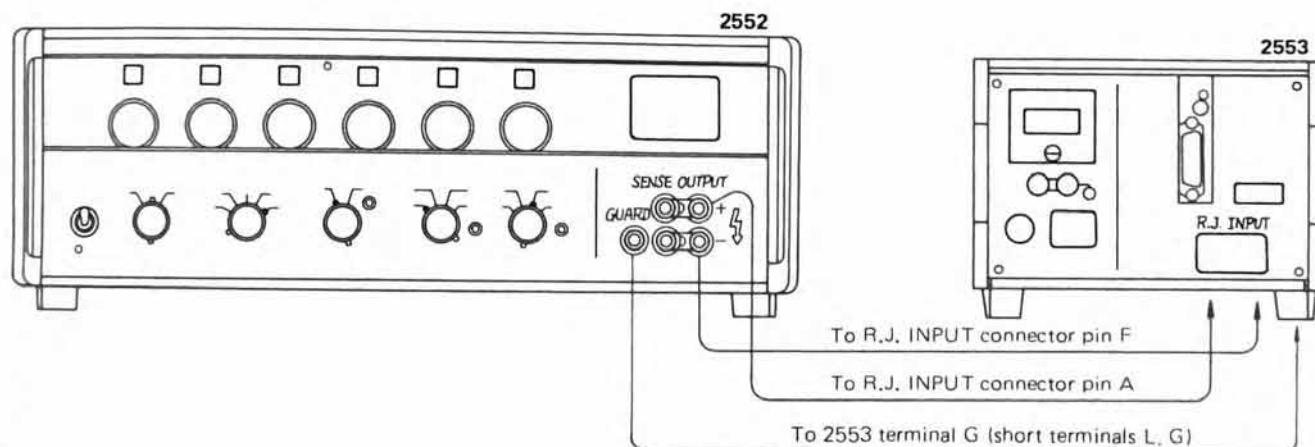

Figure 5-5. Setup for Calibration of R.J. TEMP Range.
- c) As shown in Figure 5-5, connect the calibration jig (described in "REFERENCE" in 2.4.2) to the R.J. INPUT connector on the rear panel of this instrument, and apply a DC voltage of -1 V between the terminal F (- side) and A (COM side) of the connector.